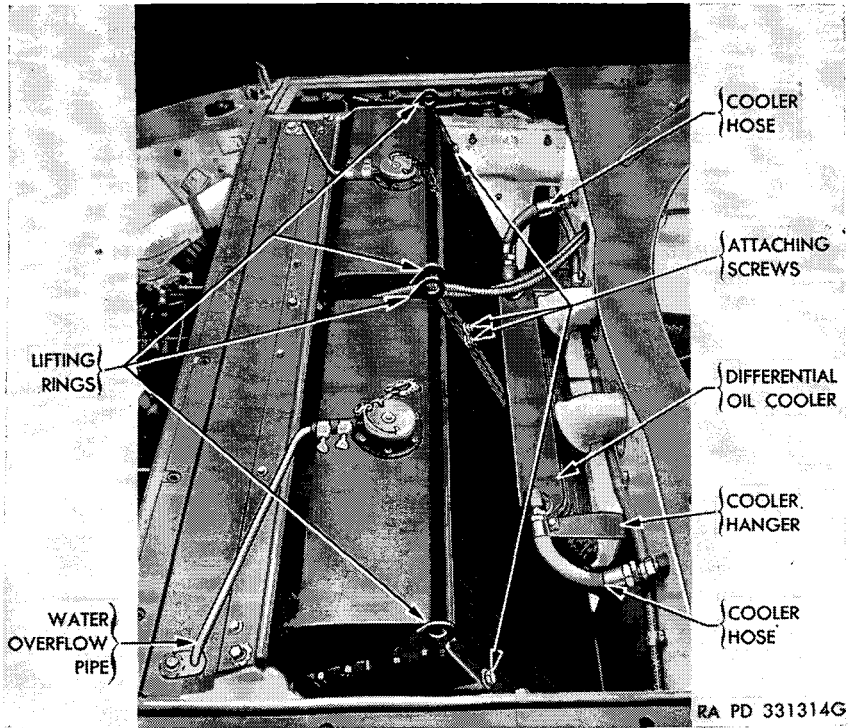
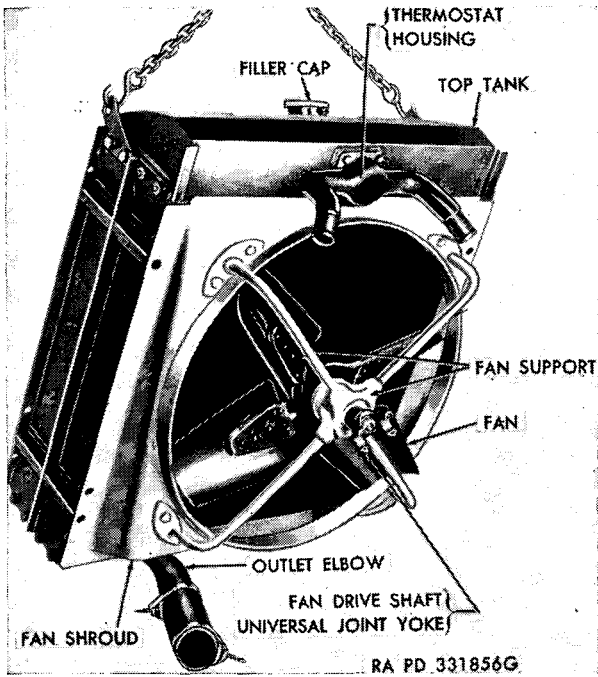

Figure 83. Radiator and transmission oil cooler mountings.
Figure 84. Removing radiator.
Working on rear side of radiator, remove short bolt which holds radiator to support at center. Hook sling to lifting rings on top of radiator (fig. 83), connect hoist to sling, and lift radiator, shroud, and fan assembly out of vehicle (fig. 84).
- (1) *Install radiator.* Place fan shroud on radiator and install four attaching bolts, nuts, and washers. Place fan assembly on fan shroud and install eight bolts and washers which attach fan spider to shroud. Connect sling to radiator lifting rings, attach hoist to sling, slide long, lower, outer bolt in position, and lower radiator into position in engine compartment. Tilt top of radiator toward rear of vehicle to clear cross angle with fan drive shaft yoke (fig. 84). Install one long bolt through upper part of radiator and into tapping nut on center support. Screw long, lower, outer bolt into side support. Working at rear of radiator, install short bolt through center support and into tapping nut on radiator. Connect hose connections at radiator thermostat housing at top of radiator and outlet housing at bottom of radiator and tighten hose clamps. Line up fan drive shaft yoke with universal joint bearing trunnions and install four screws and lock plates. Tighten screws to a torque tightness of 16–25 foot-pounds and lock in place by bending lock plate ears over flat of screw. Place oil cooler on bulkhead and install hanger screws. Connect oil cooler hoses at each end of oil cooler. Position metal seal on radiator cross angle and radiator, and install five mounting screws with washers. Place radiator overflow pipe on top of radiator, connect short hose at filler neck and hose under metal seal at engine compartment side to pipe, and tighten hose clamps. Install overflow pipe clip screw.
- (2) *Install radiator cover and engine compartment door.* Attach sling to handles on radiator cover assembly, attach hoist to sling, and lift cover and engine compartment door together as a unit. Place over engine compartment. Fasten the six screws that hold these two items to the engine compartment cross angle. Fasten the six screws that hold the radiator cover assembly to the hull. Turret can now be traversed back to its customary position.
- (3) *Fill cooling system.* Refer to paragraph 118.